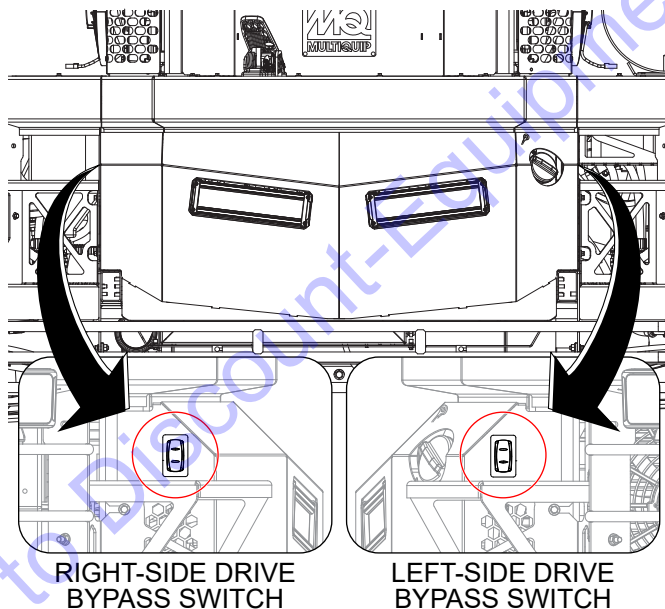

Figure 53. Drive Bypass Switches
2. **Without sitting in the operator's seat**, press and hold either one of the **drive bypass switches** (Figure 53) to enter **Drive Bypass mode**. Engine speed will rise to operating speed and **the lights will flash** to alert personnel to **exercise caution** during this procedure.